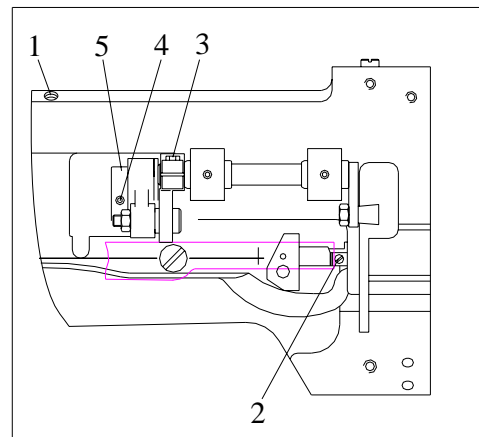

Fig.10
(2) The inner clamp and the sewing needle should remain synchronous. As the sewing needle descends, so does the inner clamp. However, the inner clamp can be made slower if the sewn material is thick. When adjusting, loosen the set screw 4 on the lifting eccentric wheel of clamp 5 (Fig.10). Turn the hand wheel towards the red arrow. Tighten the screw when the inner clamp and the sewing needle become synchronous.
(2) The lifting capacity of the outer clamp can also be adjusted. The height of the outer clamp needs adjusting owing to different kinds of material. Loosen the adjusting screw 1 (Fig.10) and the guide screw 2 (Fig.10). Move the outer clamp up and down to a proper height.
(3) Movement changes if the inner and the outer clamps are not equal in position. In this case, the inner clamp needs adjusting. Put down the clamp and grasp the inner clamp. Loosen the screw 3 (Fig.10) and move it up and down to a proper height.
The clamp pressure is adjusted with the adjusting screw 1 (Fig.10). Rotate the screw clockwise to increase pressure while counterclockwise to reduce pressure.